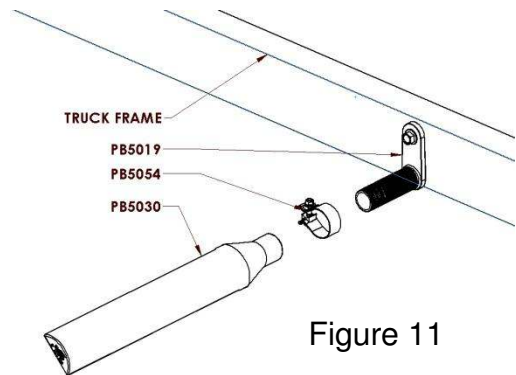

Figure 11
- A. Bolt the remaining PB5019 swivel brackets to the truck frame as shown in Figure 11 and tighten the nut so the brackets suit the desired position of the fender. **Recommended torque for the 5/8" x 4-1/2" bolts is 160-170 ft-lbs.**